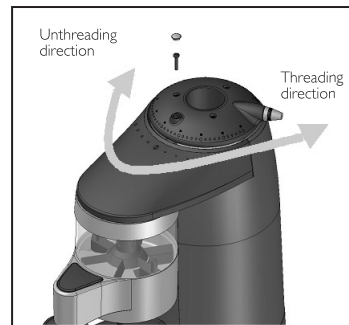

Fig. 12
To access to grinding chamber, remove the position indicator (7) and unthread the block screw, then remove the upper burr holder the grind regulator (see the direction in Fig 12). To replace it, thread the burr holder (Fig 12) until it reaches the grinding point (this is when the burrs touch and a metallic noise can be heard). Turn the block screw and the position indicator (7) is put back on.